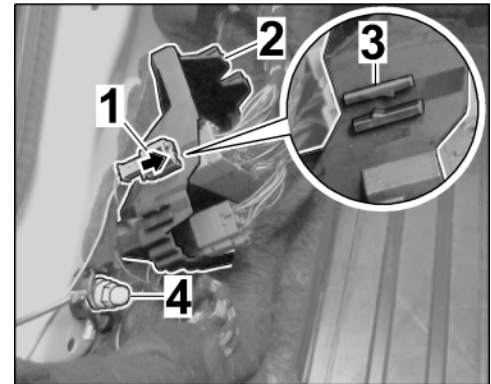

Figure 7
- 2.3.1 Push pin connector socket onto the top guide (\Rightarrow *Figure 7 -Magnifier-*) at the connection point holder (left A-pillar area). \Rightarrow *Figure 7 -Arrow-*
Screw cable ring eyelet to ground pin 21. \Rightarrow *Figure 7-4-* \Rightarrow *Figure 7*